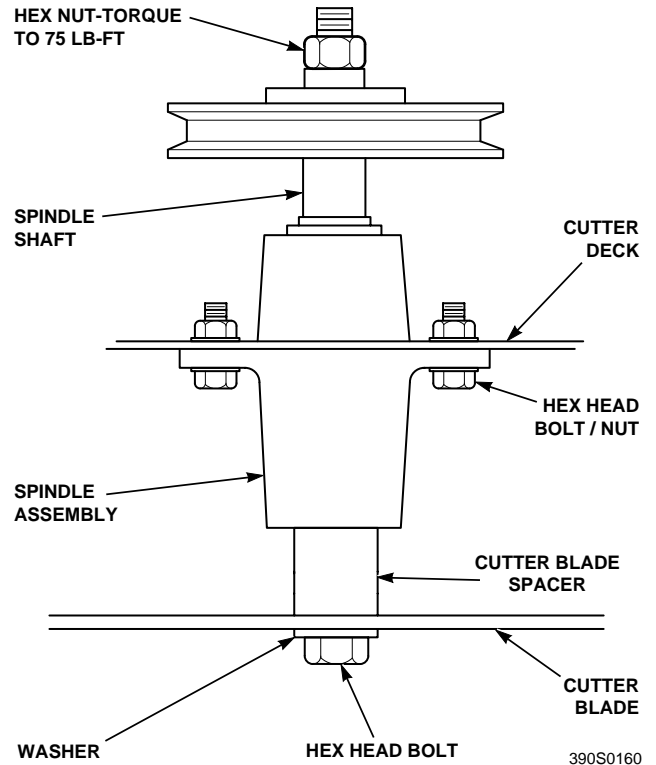

Figure 7-8 Blade Replacement
3. Secure the cutter blades to prevent them from rotating, (use the optional Blade Buddy tool, P/N 9212, to assist in securing the cutter blades), remove the nut from the blade attaching bolt. Remove the cutter blade, bolt and spacer from the spindle shaft. (Figure 7-8).
6. Install the hex nut to the blade bolt at the top of the cutter spindle. Secure the blades from rotating and torque to 75 ft-lbs. (See Figure 7-8)